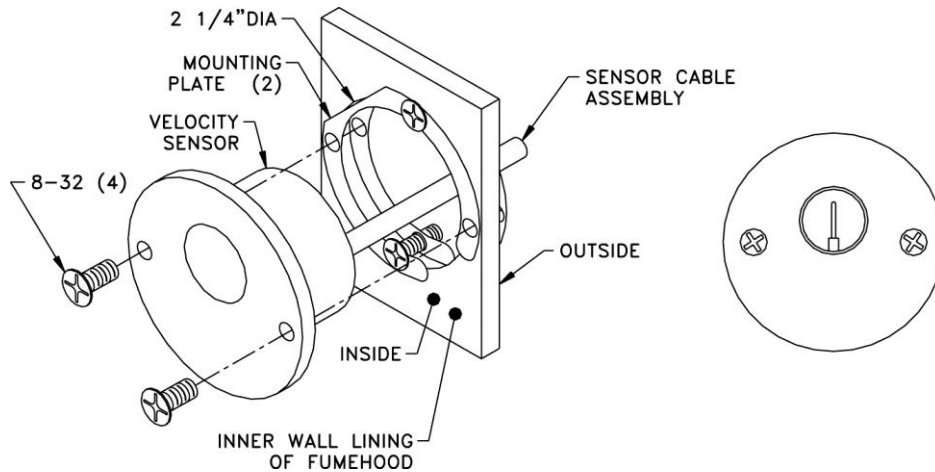

Figure 4: Final Sidewall Velocity Sensor Mounting
7. Mount the Sidewall Velocity Sensor to the Mounting Plate using the remaining two supplied screws (Figure 4).
8. The mounted Sidewall Velocity Sensor must be installed exactly as shown (Figure 4).